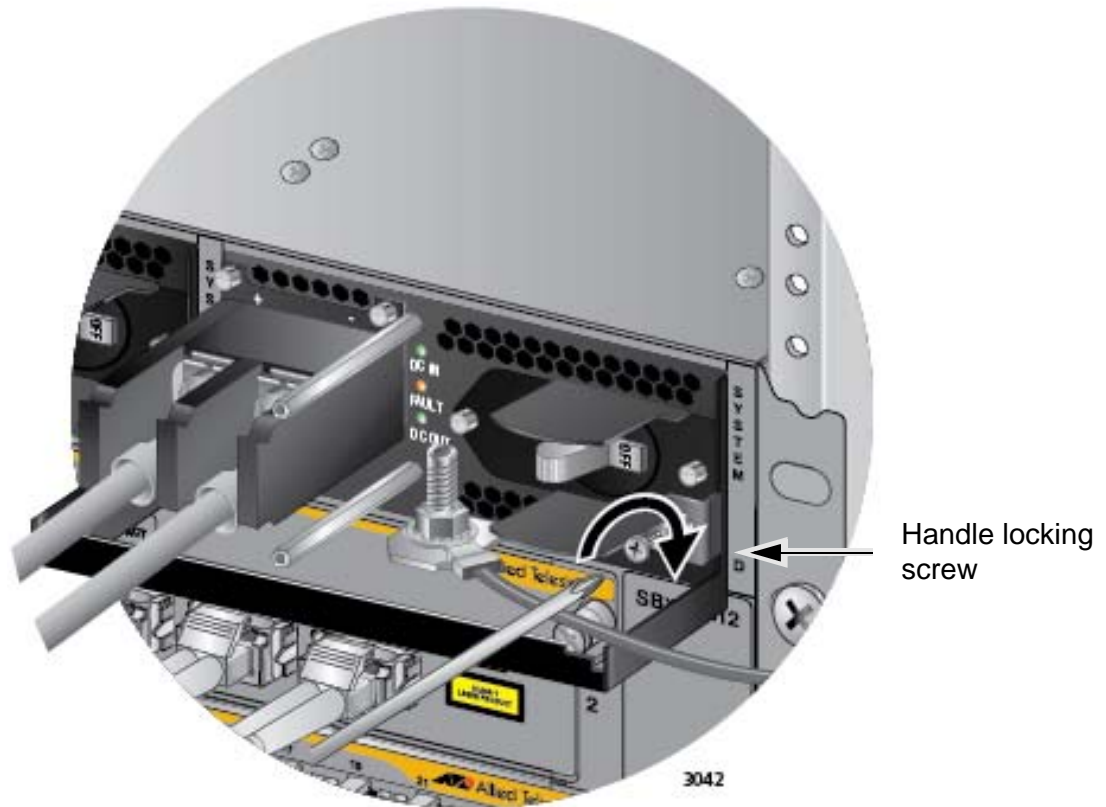

Figure 144. Tightening the Handle Locking Screw
8. With a #2 Phillips-head screwdriver, tighten the handle locking screw to secure the power supply to the chassis. See Figure 144 on page 217.